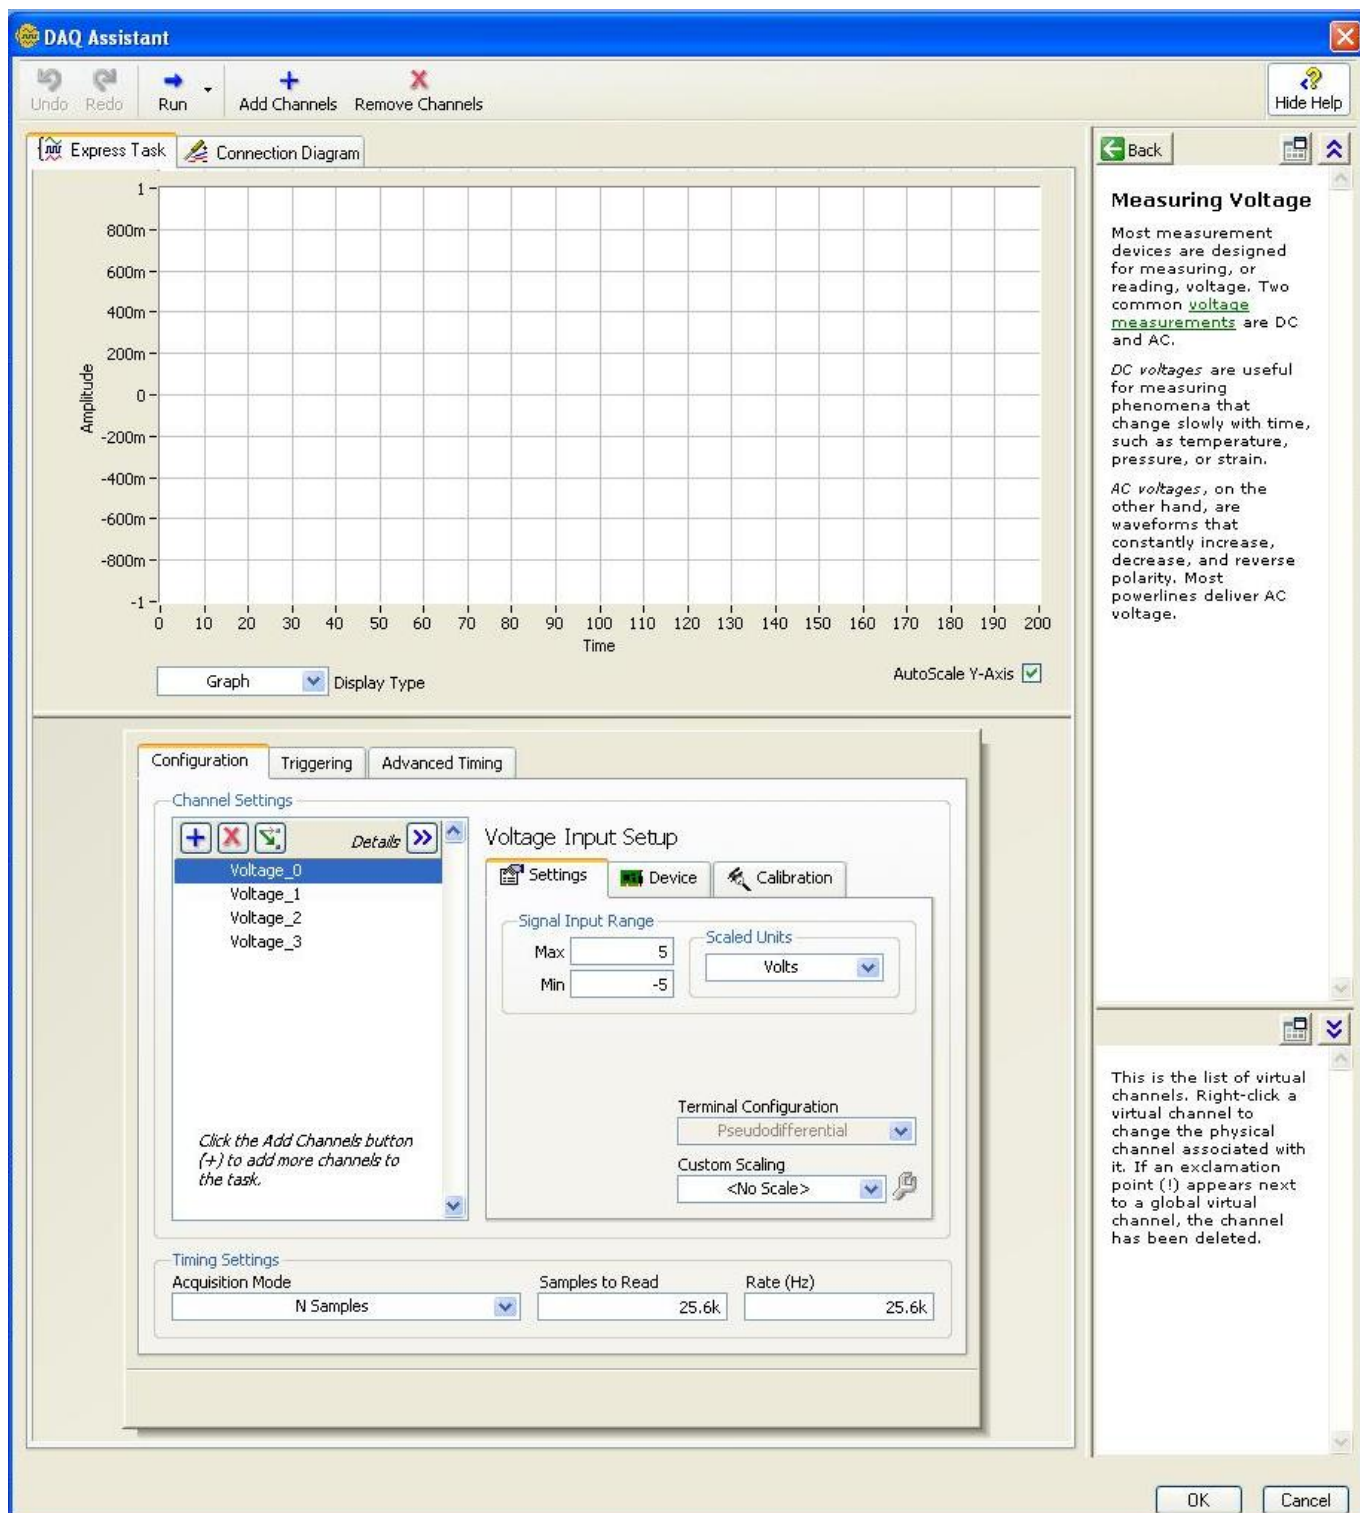

Figure 2: DAQ Assistant configuration window
- The Vib4Ch_decimate.vi program should be set up correctly for the hardware to be used. To check this, the vi should be opened by double clicking on it in Windows Explorer or by starting LABVIEW and then opening it as a vi. Once the front panel is displayed, the block diagram can be obtained by clicking anywhere in the front panel and then pressing Ctrl-E. (Ctrl-E toggles between the vi front panel and its block diagram.) In the block diagram double click on the DAQ Assistant (see figure 1). This will open a configuration window as shown in figure 2. In this window, “Voltage_0” refers to the 1st analogue input channel and “Voltage_3” to the 4th, etc. Check that the settings listed under the “Settings” tab is correct for all four channels by selecting them one-by-one by clicking on the channel in the list. (After selection the channel is highlighted in blue, as is the first channel in figure 2.) Also check the AC/DC coupling mode for each channel, under the “Device” tab.
Back on the main configuration window of the DAQ Assistant (figure 2): it is not necessary to set the “Timing settings” at the bottom (“Acquisition Mode”, “Samples to Read” and “Rate”). These parameters are set by the program. Once everything in the DAQ assistant configuration window has been set up correctly, click the OK button at the bottom right to close this window and to configure the DAQ assistant (or “Cancel” if nothing has been changed).